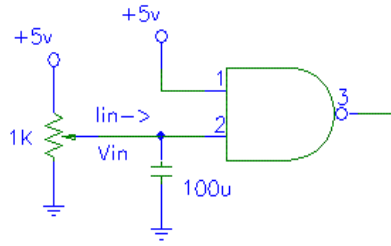

Figure 4
b. Measure the input current versus input voltage: see figure 4.